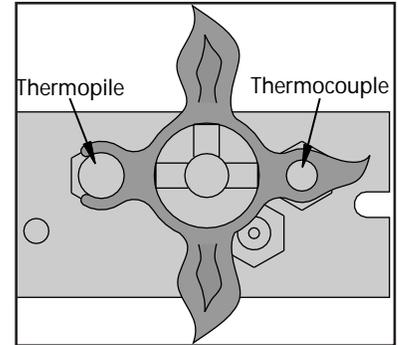
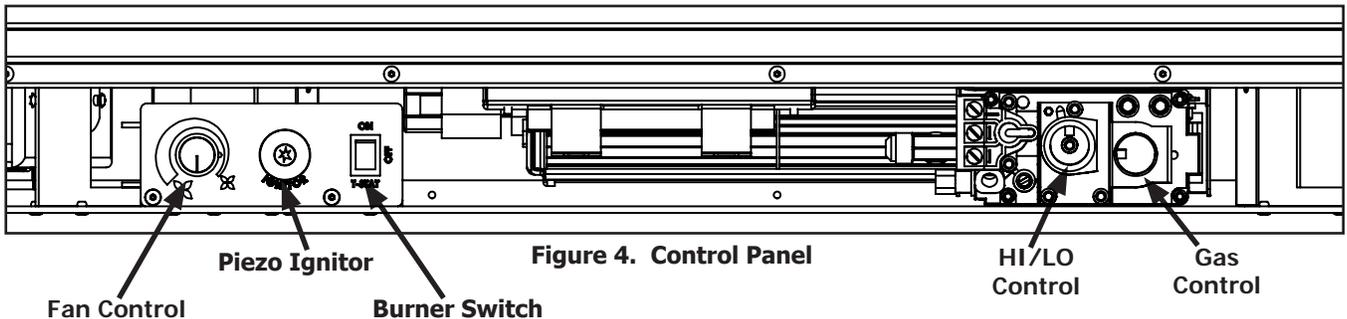

Figure 3. Pilot Flame
Figure 4. Control Panel
1. Turn off the gas to the fireplace. **If not recently done, remove the glass and let the unit air out for at least five (5) minutes to clear out any gas.** Turn on gas to the heater.
2. Turn the gas control knob to pilot, push in and hold (see Figure 4); Simultaneously, press the piezo ignitor several times until the pilot ignites. Hold the gas control knob in for at least 30 seconds once lit. Check that the pilot has fully engulfed the thermocouple assembly (see Figure 3). The pilot should now stay lit on its own, release gas control knob.
Flip switch to OFF to turn off burners, turn the gas control knob to OFF to extinguish the pilot flame. Keep the pilot flame **OFF** when not in use for long periods. If the fireplace is to be serviced, turn the gas shut off valve OFF (DO NOT FORCE IT) and disconnect all electrical power sources. See (Figure 4) for control panel layout.